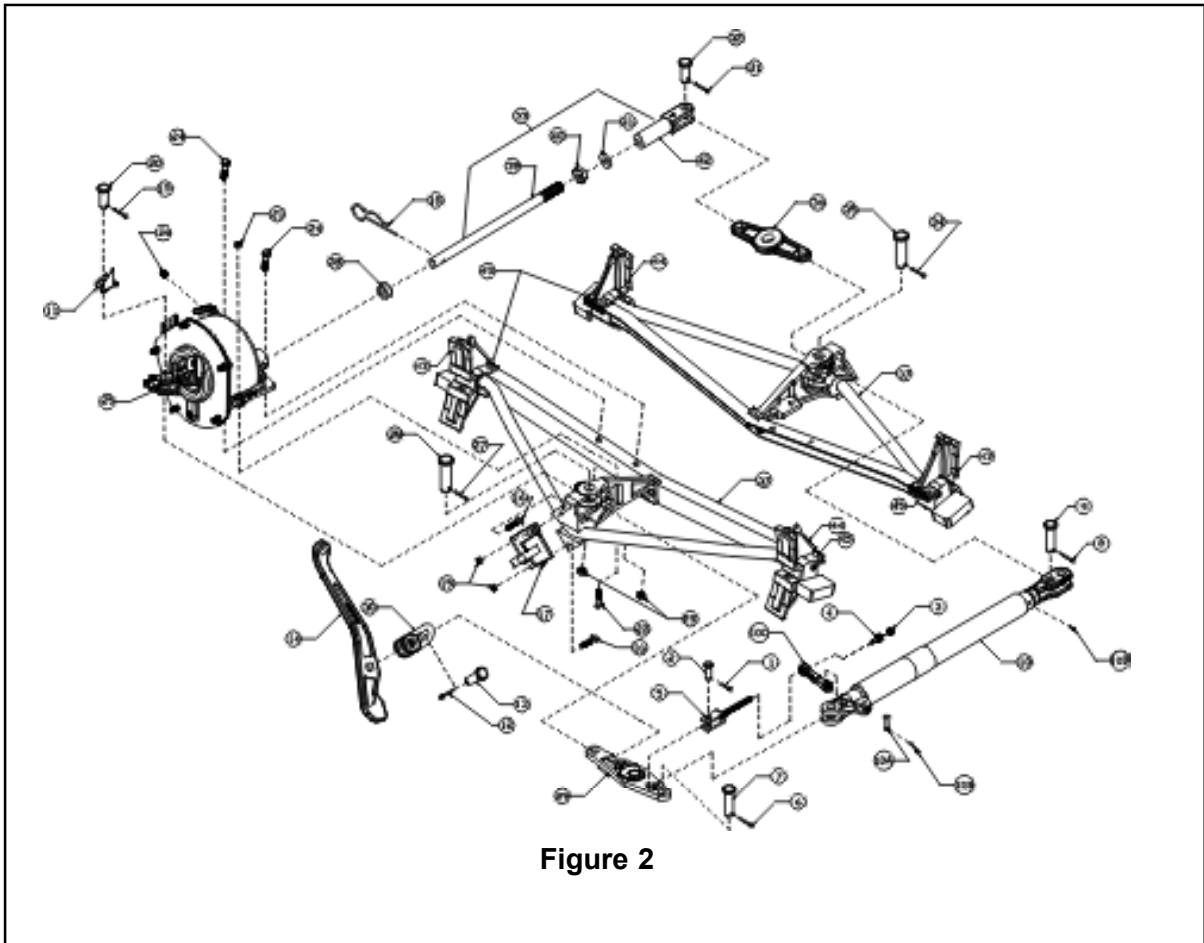

Figure 2
Make sure all air is depleted in the brake system to preclude personal injury. Refer to Figure 2 for this procedure.
1. Carefully insert the slack adjuster (10) through the bolster window with the trigger end jaw of the slack adjuster toward the cylinder brake beam. Cut the plastic shipping strap from the slack adjuster front jaw.
2. Align the non-cylinder transfer lever (36) with the proper slack adjuster rack end jaw hole and pin with a transfer pin (9). **NOTE:** Please refer to the proper TMX installation or assembly drawing or ask your air brake supervisor for the correct pinning of the non-cylinder (36) to the inner or outer hole of the slack adjuster rear jaw (See Figure 2). Insert the trigger (10C) into the trigger end jaw slot of the slack adjuster (10) from the cylinder side, then slide the slack adjuster control rod (5) into the trigger (10C). Both the slack adjuster (10) and the control rod (5) should be set onto the cylinder transfer lever (36) simultaneously. Insert the trigger pin (10A) through the trigger pin hole on the slack adjuster (10).
3. Secure the slack adjuster (10) to the cylinder transfer lever (29) with transfer pin (7). Insert the control rod pin (2) through the control rod clevis and the small hole of the cylinder transfer lever. Turn the spherical flanged, sleeved nut (4) clockwise onto the control rod (5) with the sleeved side toward the trigger of the slack adjuster. Turn the nut clockwise until a $\frac{1}{4}$ " gap is left between the nut and the trigger. **NOTE:** *For the installation of brake beams proceed to Item 7.0.*